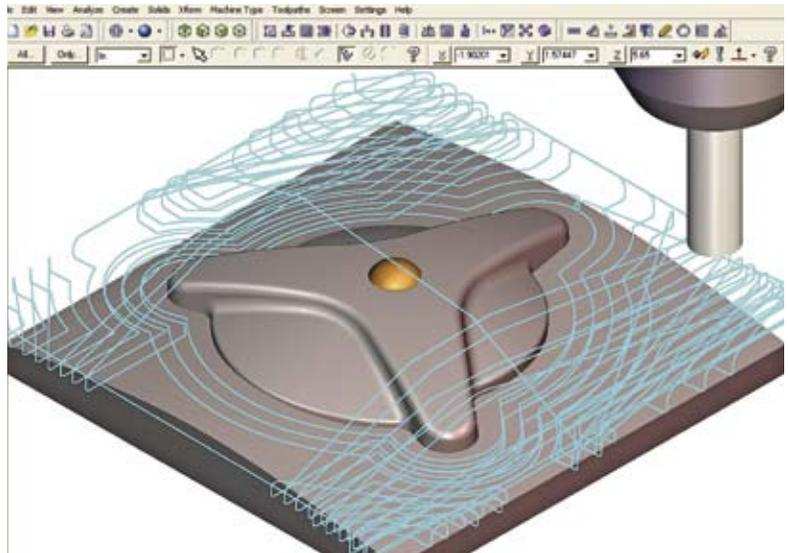

Figure 2: Parts that are shaped like cores (protrusions or bosses) will use a core roughing strategy that starts from the outside of the part and works inward.
- *Core roughing.* Parts that are shaped like cores (protrusions or bosses) will use a core roughing strategy that starts from the outside of the part and works inward (Figure 2).